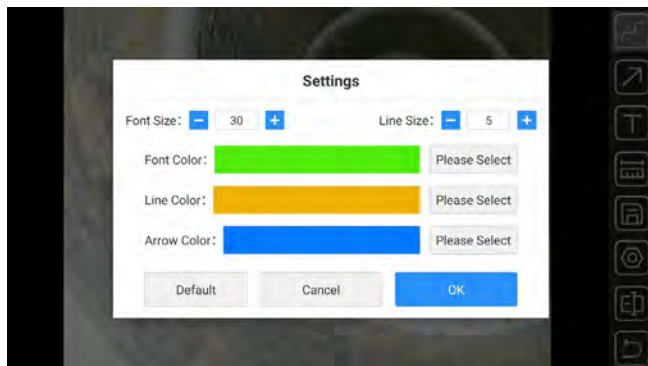

Figure 8-41
- Click the setting icon to set the line color or font size of each function (as shown in Figure 8-41):